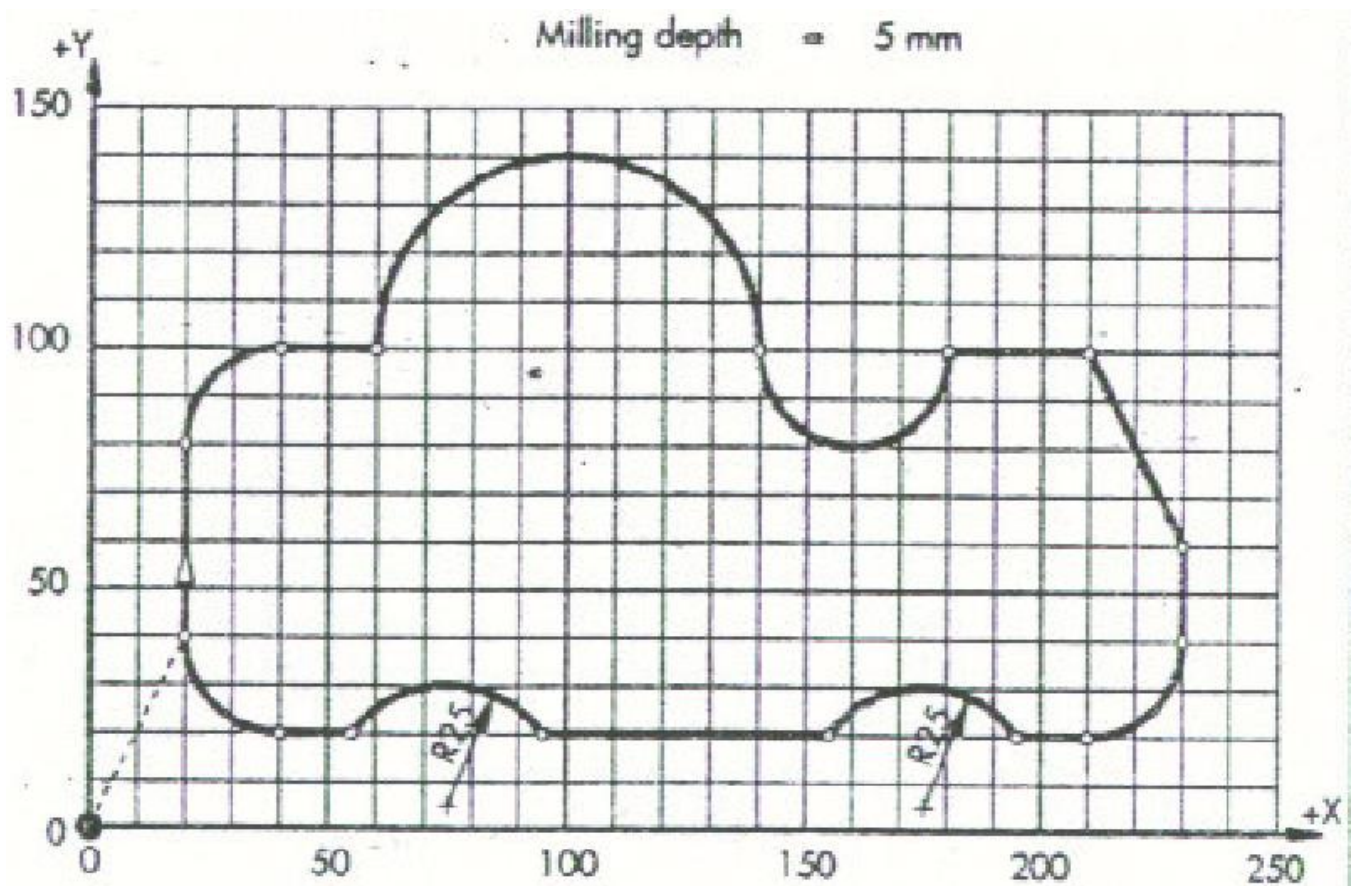

Figure QU6 Blending radii profile
- Write a full APT program for machining of the profile shown in Figure QU6 which is 10 mm thick. The dimensions of the stock material are 250 x 150 x 10mm. The given